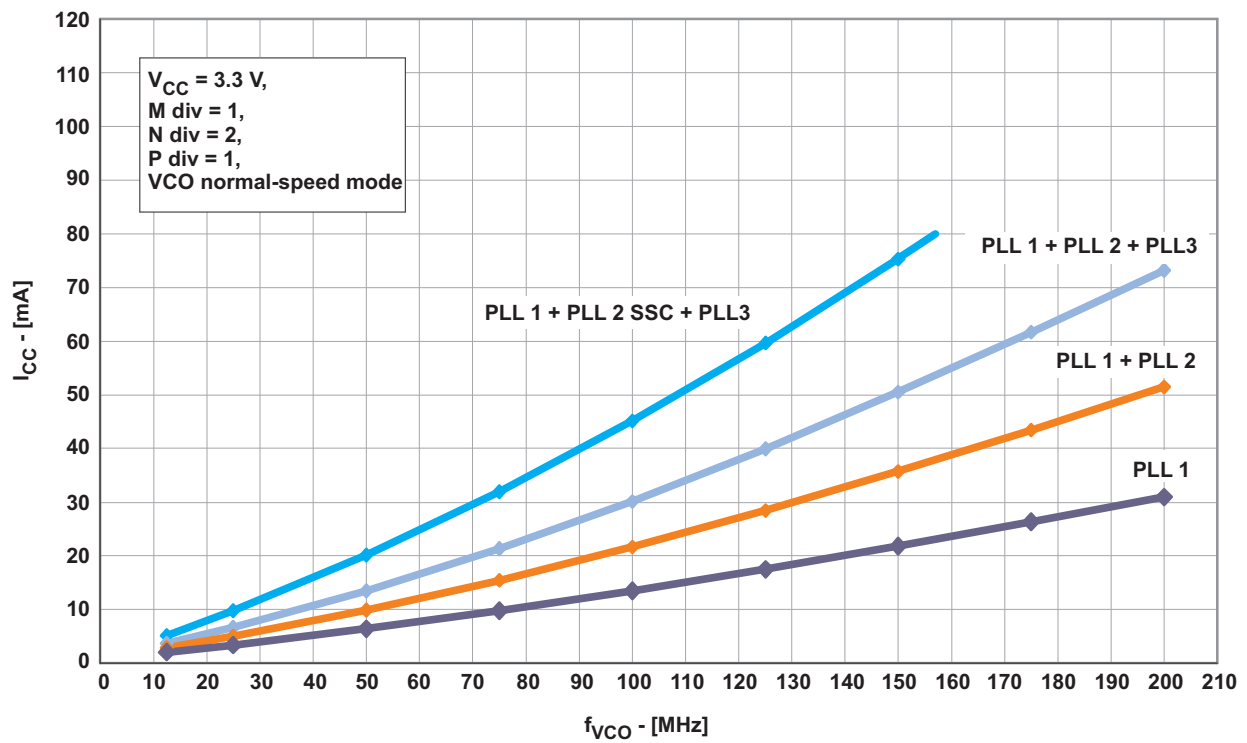
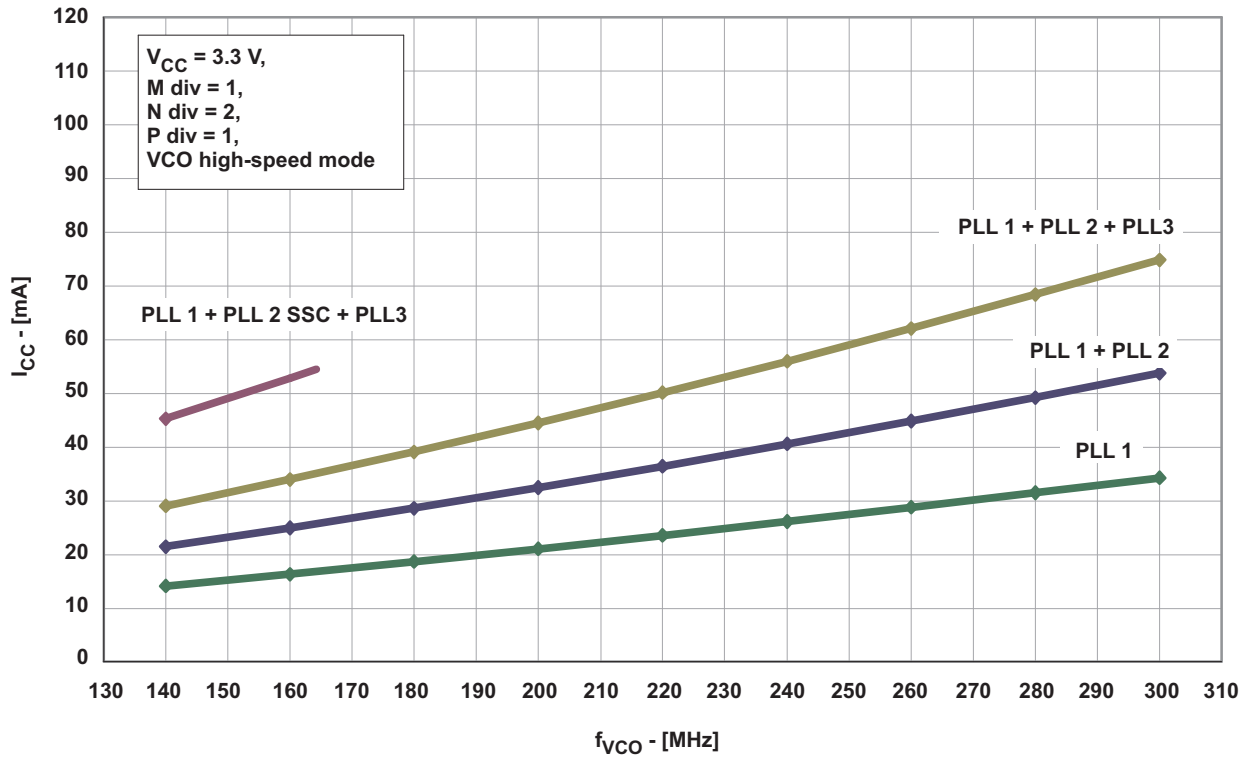
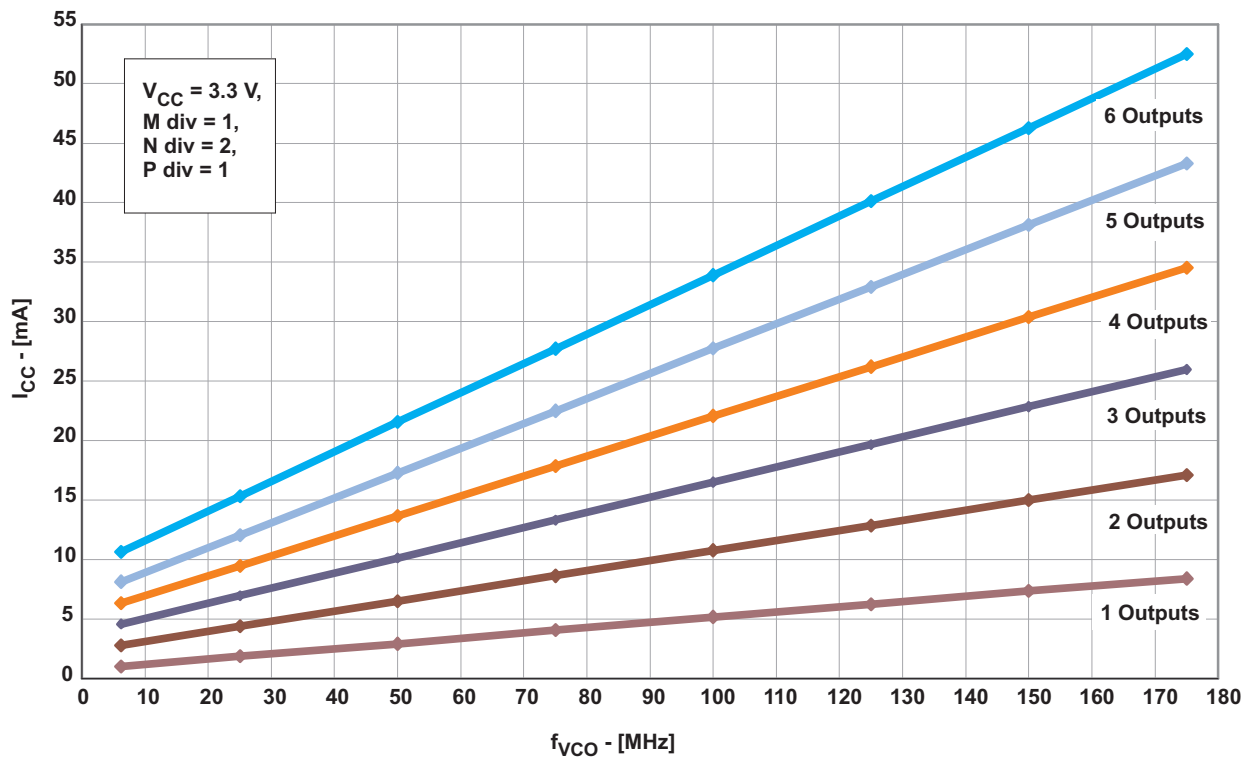

Figure 2. ICC vs Number of PLLs and VCO Frequency (VCO at Normal-Speed Mode, Byte 6 Bit [7:5])
Figure 3.  $I_{CC}$  vs Number of PLLs and VCO Frequency (VCO at High-Speed Mode, Byte 6 Bit [7:5])
Figure 4.  $I_{CCOUT}$  vs Number of Outputs and VCO Frequency
(1) All typical values are at respective nominal  $V_{CC}$ .(2) For calculating total supply current, add the current from Figure 2, Figure 3, and Figure 4. Using high-speed mode of the VCO reduces the current consumption significantly. See Figure 3.(3) Normal-speed mode or high-speed mode must be selected by the VCO frequency selection bit in Byte 6, Bit [7:5]. The min  $f_{VCO}$  can be lower but impacts jitter-performance.
(4) The maximum output frequency may be exceeded, but specifications under the Recommended Operating Condition may change and are no longer assured. Do not exceed the maximum power dissipation of the 20-pin TSSOP package (600 mW at no air flow).